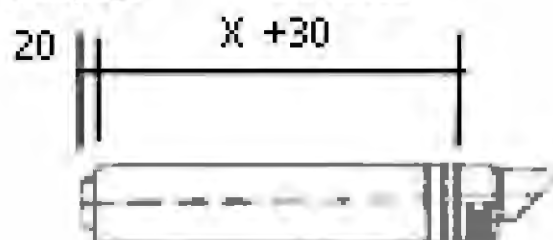

Figure 7
- Measuring from the back of the terminal connection, mark this distance, L, onto the outer air duct (figure 7)
- Again measuring from the back of the terminal mark the same distance L, as above, +20mm on the inner duct such that when the duct is cut and assembled the inner duct protrudes 20mm from the outer duct (figure 7).